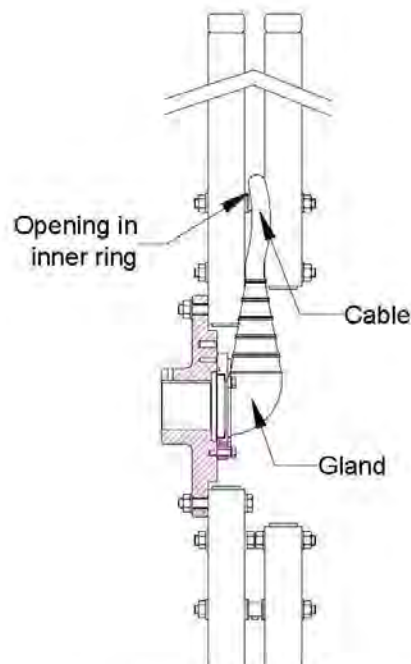

Figure 8 – Cable entry
- 5.2.4 Continue feeding it through the opening of the inner ring of the drum, out through the space between the spokes and then through the cable gland as shown in Figure 8.